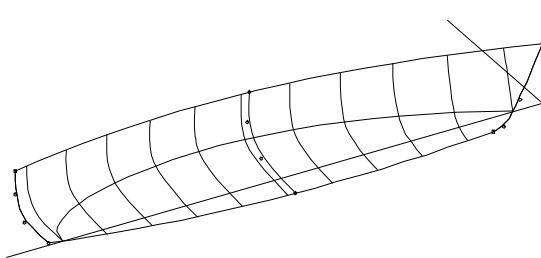

Fig. 15
- 3 On the **Display** tab under **Visibility**, turn **on Boundary** and turn **off u-constant**. We're just getting rid of some lines so we can better see what we are doing (Fig. 15).